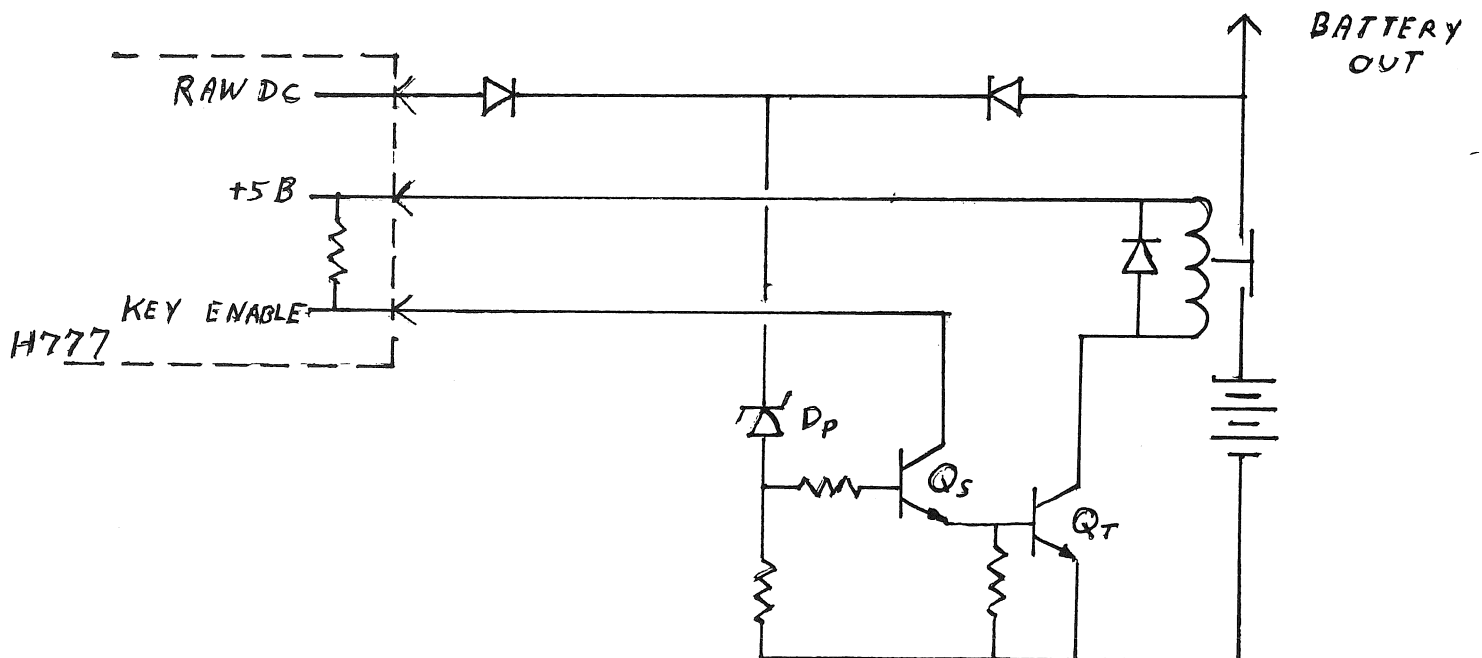

FIGURE 3-42
Fig. 3-42 shows the self turn-off feature. When the raw DC is not present and the battery is discharging, Q(S) and Q(T) are ON and the relay is in the closed position. When the battery voltage drains down below the zener voltage (D(P)), Q(S) will turn OFF followed by Q(T) and the relay will open and prevent the battery from discharging too deeply and causing a serious degradation of the cycle life.